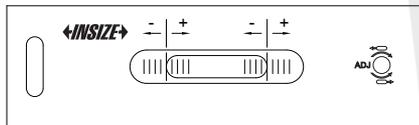

Fig.1
a) Slide (not put) the level on a clean, plane and smooth surface. '-' side is on the left and '+' side is on the right (Fig.1).